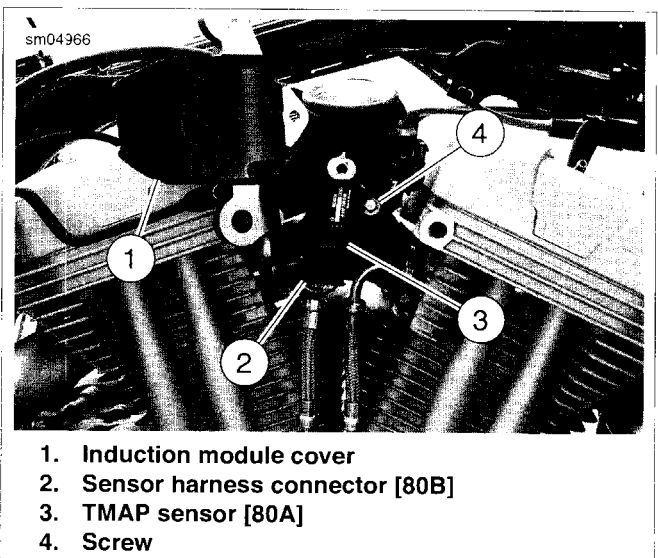

Figure 4-65. TMAP Sensor: XR Models (airbox removed for clarity of photo)
See Figure 4-65. TMAP sensor harness and TP sensor harness are attached to inside of induction module cover (1). It is not necessary to remove the retainer securing these harnesses to the induction module cover in order to access TMAP sensor.
3. See Figure 4-65. Carefully rotate induction module cover (1) out of the way.
4. Unplug TMAP sensor harness connector [80B] (2). Remove screw (4).
5. Grasp TMAP sensor (3) and with a gentle twisting motion, pull sensor straight up out of induction module body.
3. See Figure 4-65. With a gentle twisting motion, insert sensor (3) into induction module with connector [80A] pointing down. Secure sensor to induction module with screw (4). Tighten to 80 **in-lbs** (9.0 Nm).
4. Plug sensor harness connector [80B] (2) into TMAP sensor.